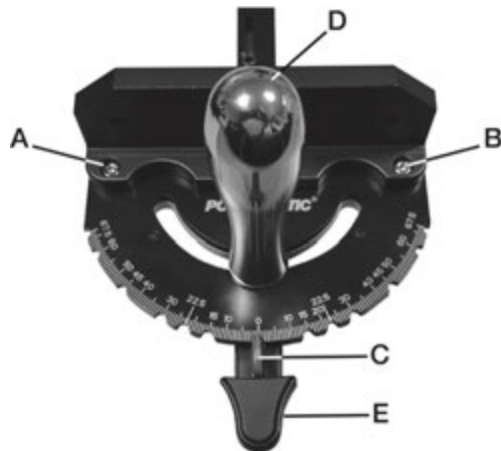

Figure 8-3C
2. Loosen screws A and B as shown in Figure 8-3C.
### Adjusting Miter Gauge Angle for Operations (model PM3000BT, refer to Figure 8-3C):